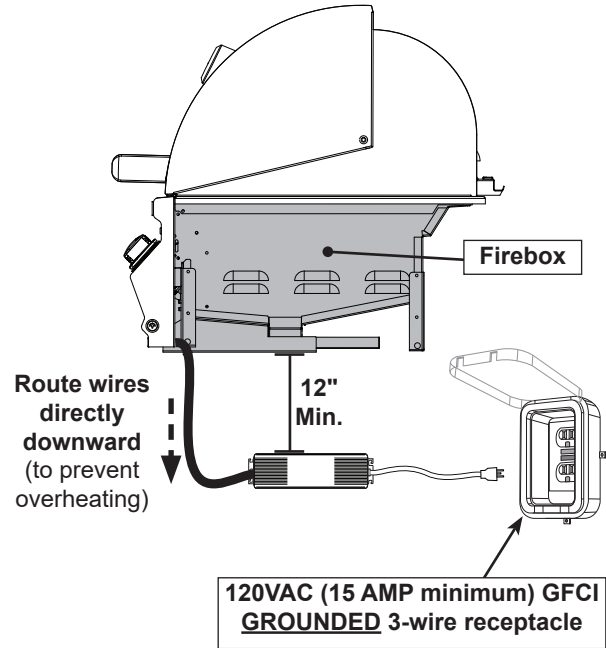

Fig. 28-1 Electrical installation
1. Route the power supply below the control panel and directly downward. This will prevent overheating. **DO NOT** route the harness below the unit firebox. See Fig. 28-1.
- located at least **12"** below the bottom of the unit (see Fig. 28-1)